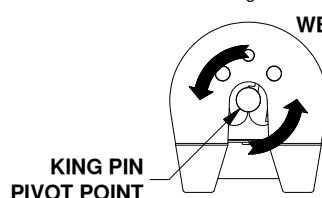
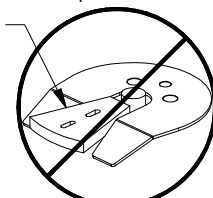

FIGURE F3:
FIGURE F4:
**WARNING:** Do not use the Companion 5th wheel hitch with any device that changes the location of the king pin pivot point. The king pin on your trailer must rotate in the jaws of the Companion Coupler, see Figure F3. Preventing the king pin from rotating within the jaws of the Companion Coupler with a wedge, see Figure F4, or any other device, such as a Reese Sidewinder® or Reese Revolution®, could result in property damage, serious injury or death.